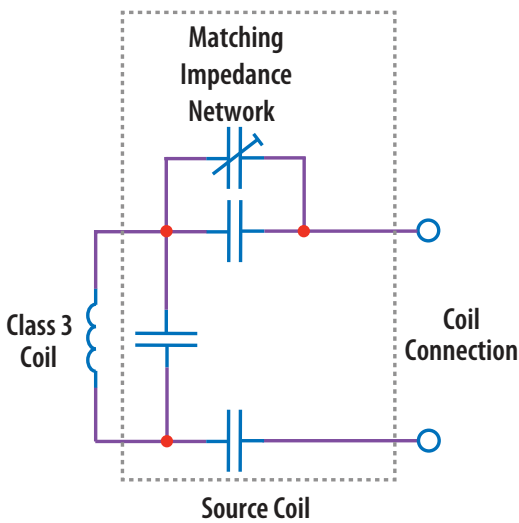

Figure 4: Basic schematic of the AirFuel Class 3 source coil.
Figure 4 shows the schematic for the source coil which is Class 3 AirFuel compliant. The matching network includes both series and shunt tuning. The matching network series tuning is differential to allow balanced connection and voltage reduction for the capacitors.
1. When measuring the high frequency content switch-node (Source Coil Voltage), care must be taken to avoid long ground leads. An oscilloscope probe connection (preferred method) has been built into the board to simplify the measurement of the Source Coil voltage (shown in Figure 4).